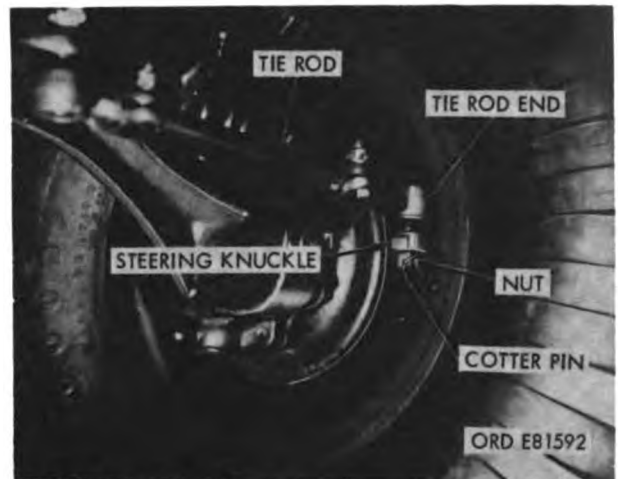

Figure 2-50. Tie rod and steering knuckle.
- (3) Remove five self-locking nuts and aluminum washers securing each front wheel to hub, and remove the front wheels.
- (4) Remove front end of propeller shaft (par. 2-47a).
- (5) Remove two cotter pins and hex nuts securing outer end of tie rods (fig. 2-50) to arms on steering knuckles and remove tie rod ends from arms. Remove cotter pin, slotted nut, and
- (5) Remove cotter pin and slotted nut securing tie rod end (fig. 2-50) to arm on steering knuckle, and drive rod end out of arm.